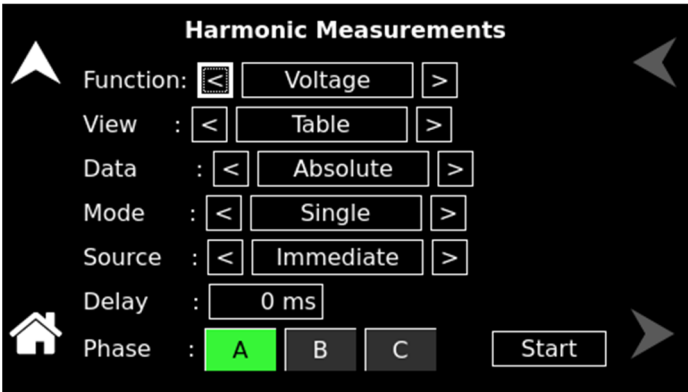

Figure 7-4. HARMONICS Menu, Triggering
Trigger mode could be selected from the front panel using the MODE field in the HARMONICS menu of the MEASUREMENTS screen; refer to Figure 7-4.
Trigger sources could be selected from the front panel using the SOUR(CE) field in the HARMONICS menu of the MEASUREMENTS screen; refer to Figure 7-4.